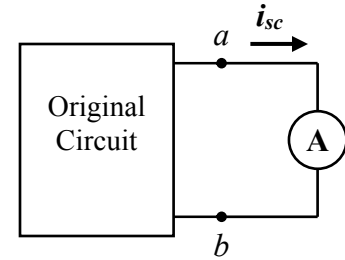
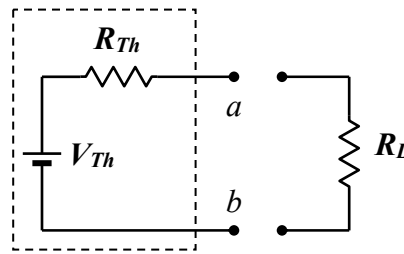
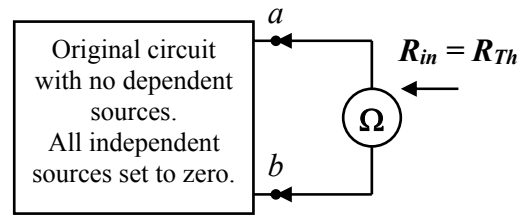
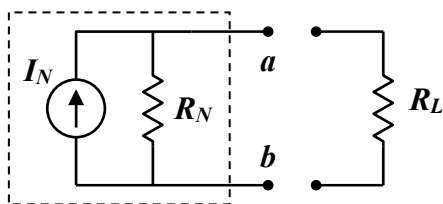

Figure 4.1c
Figure 4.1d
Figure 4.1e
Figure 4.1f
- (2) measuring the *short-circuit current* from terminal *a* to terminal *b*, i_{sc} (by inserting an ammeter between *a* and *b*, **Figure 4.1c**).
These quantities define the Thevenin Equivalent Circuit in the dashed box of **Figure 4.1d**.
If the original circuit has **no dependent sources**, R_{Th} can be found by setting all of the *independent sources* in the original circuit to zero (short-circuiting voltage sources, open-circuiting current sources; i.e., “killing” the sources). The resistance across terminals a - b , R_{in} , is then measured (**Figure 4.1e**). The Thevenin Resistance is:
When load R_L is connected to the original circuit (**Figure 4.1d**) – now defined by its Thevenin Equivalent – the current through the load is, by *Ohm’s Law*:
in parallel with resistance $R_N = R_{Th}$, as shown in the dashed box of **Figure 4.1f**. The Norton Current I_N is simply the short-circuit current i_{sc} (**Figure 4.1c**), and the Norton Resistance is the Thevenin Resistance (**Figure 4.1e**).
The circuit of **Figure 4.1f** is equivalent to the circuit in **Figure 4.1d**, provided I_N is given by **Equation 4.7** and $R_N = R_{Th}$.